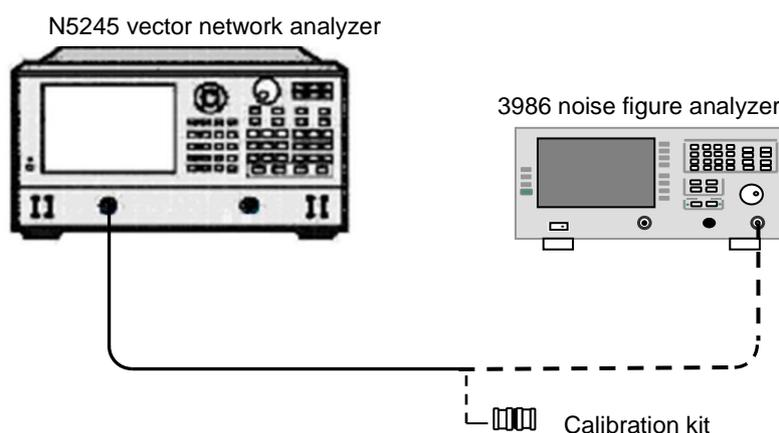

Figure 8.7 Test Block Diagram of Input VSWR
Step 1. Connect the test equipment as shown in Figure 8.7 and warm it up for 30min.